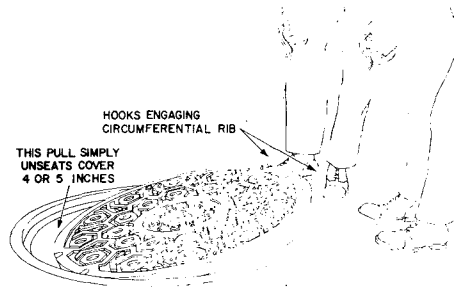
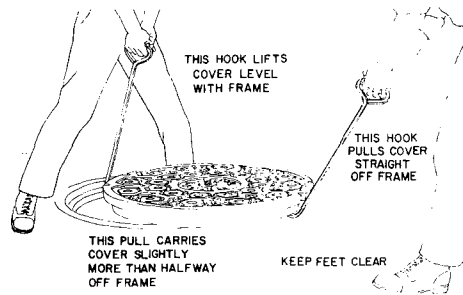

Fig. 35—Unseating Cover—Two-Person Method
Fig. 36—Sliding Cover Partially Clear of Frame—Two-Person Method
(2) Unseat the cover as shown in Fig. 35.
(3) While one craftsperson holds the cover in the position shown in Fig. 35, the other craftsperson releases the manhole hook, moves around to the opposite side, and (while facing the first person) engages the hook under the rim of the cover as shown in Fig. 36.